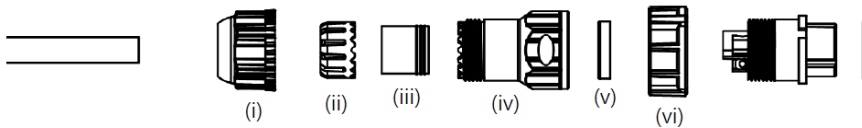

Figure 65: Insert power cable
1. Insert the power cord through each component – sealing nut (i), clip (ii), sealing (iii), sealing body (iv), gasket (v), and lock nut (vi) (Figure 65).